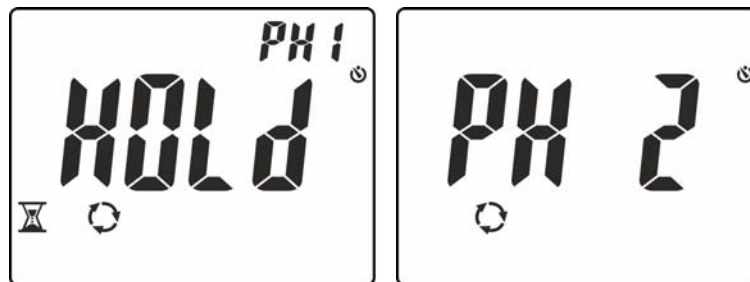

Fig. 14: Detecting phase L1 and waiting for phase L2
4. In conditions of correct voltage and frequency, the instrument shows message “**HOLD**”, symbols  and “PH1” and the buzzer sounds continuously, waiting for a stable voltage value on phase L1 to be detected (see Fig. 14 – left side).
5. **Do not remove the lead from phase L1** until message “**PH 2**” appears flashing on the display (see Fig. 14 – right side)